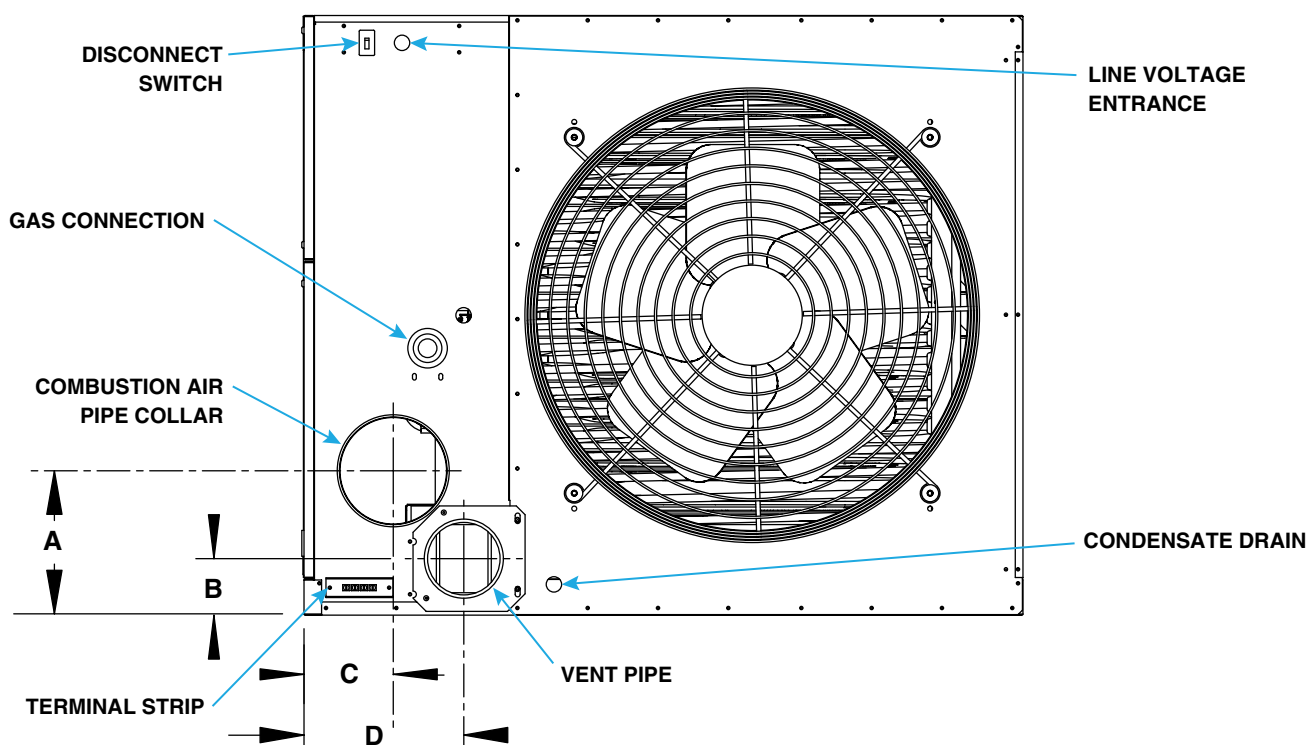

Figure 3. Connections at Rear of Unit (Refer to Table 7)
- **Venter outlet and combustion air inlet:** located at rear of heater (see Figure 3).